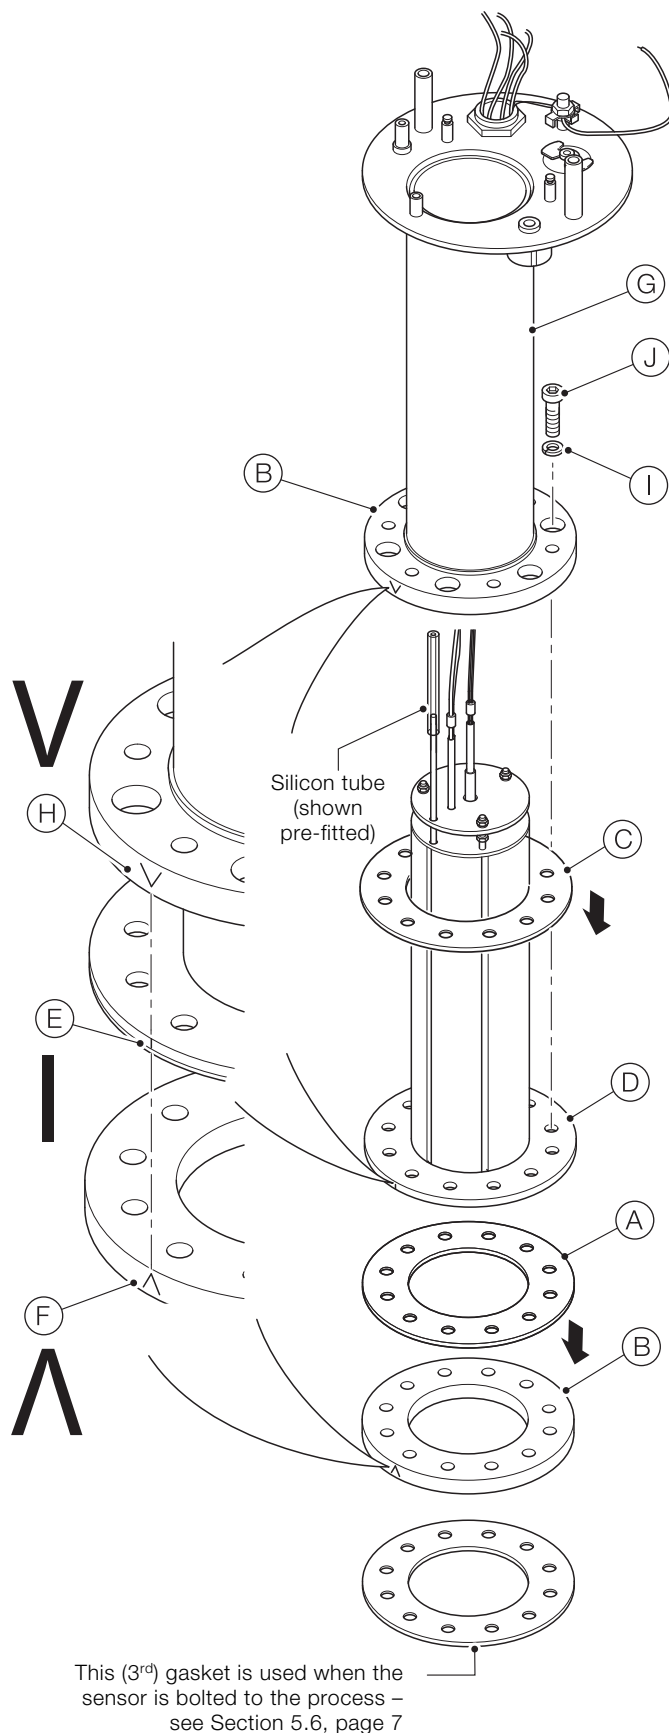

Fig. 5.5 Securing the sensor sub-assembly to the probe body
Referring to Fig. 5.5:
2. Fit the 3rd gasket (see Fig. 5.5, page 5) in place on the process-mounted flange.